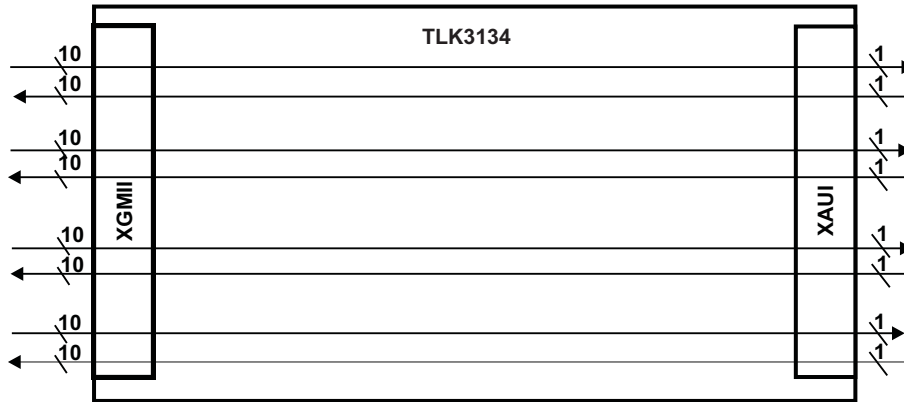

Figure 2-1. Quad 10-Bit SERDES Application
Figure 2-1 shows the TLK3134 in a Quad independent channel SERDES Application. The 1000Base-X PCS layer can be enabled or disabled. Note that in independent channel mode, the 8B/10B encoder/decoder functions can either be turned on or turned off. When turned off, either 5 or 10 bits (DDR/SDR) of data is accepted from and presented to the parallel side. When the 8B/10B encoder/decoder functions are enabled, 1 bit of control and 8 bits of data are accepted from and presented to the parallel side using the standardized (R)GMII control characters.